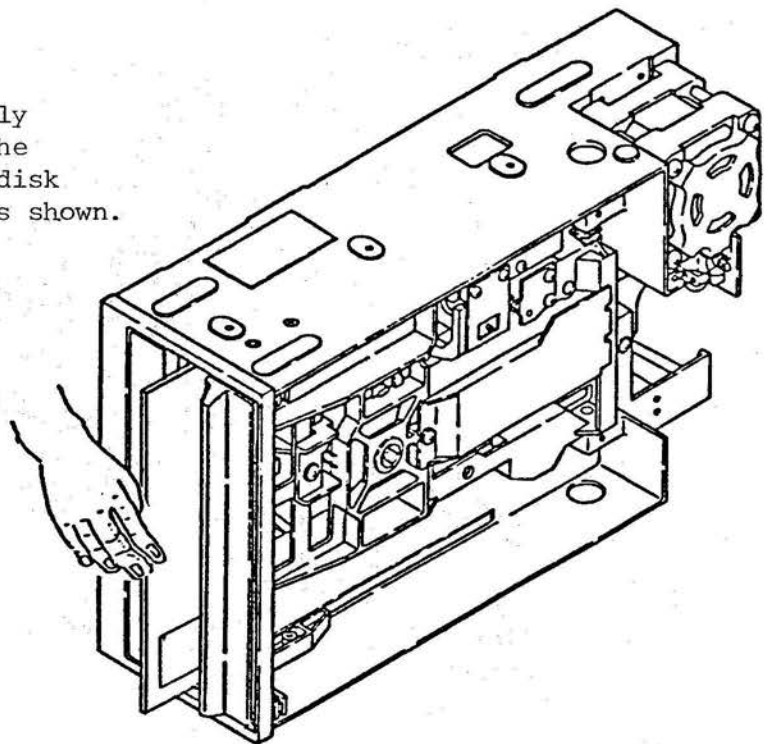

Figure 5
⑤ Cautions for insertion
- ① When inserting a disk, do it slowly and hold the disk as shown in figure 5.